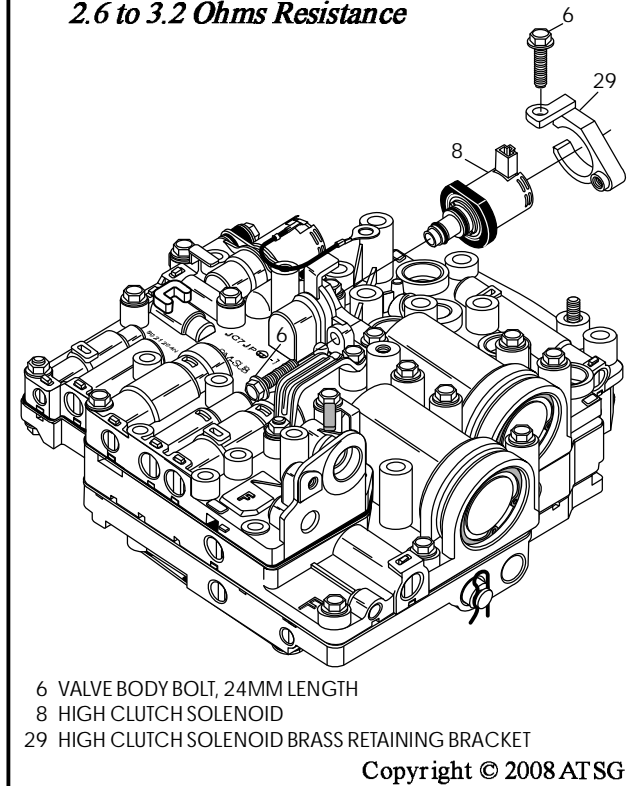

Figure 178
55. Install the high clutch solenoid and the brass retaining bracket, using two 24mm bolts, as shown in Figure 178.